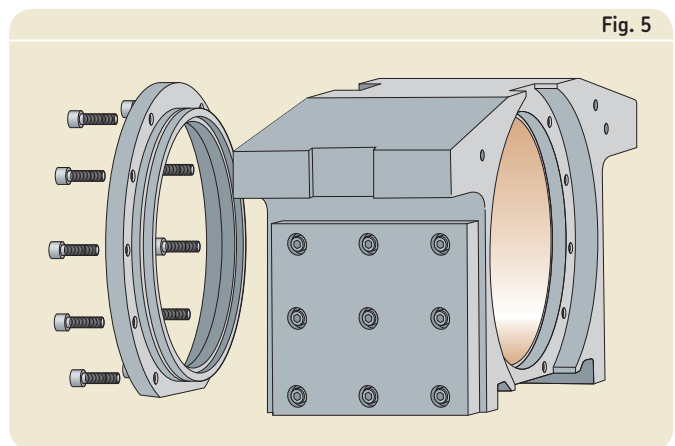

Fig. 5
- Screw the roll-side cover onto the chock (→ **fig. 5**)